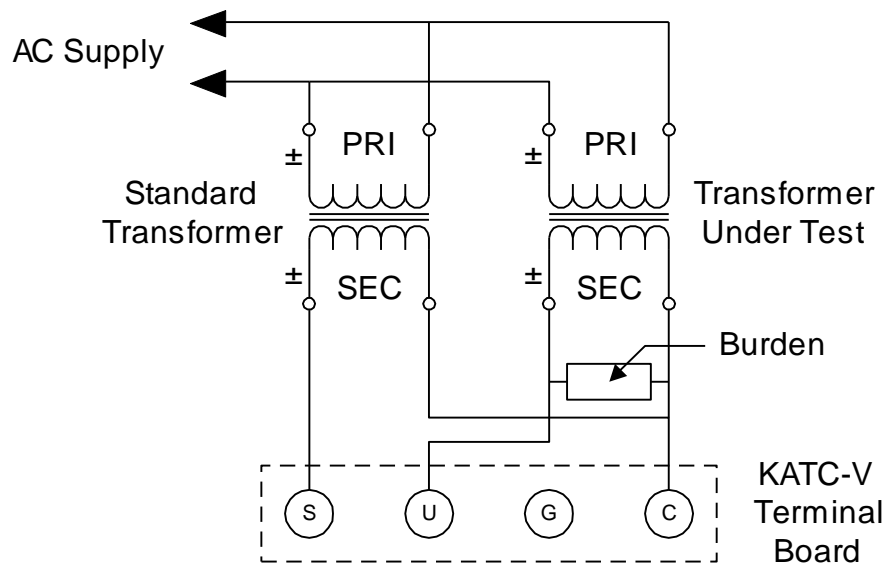

Figure 1 - KATC-V Portable Use
Figure 1 shows the transformer connections to be made to the terminal board on the rear panel of the KATC-V when the KATC-V is being used in a portable environment (not mounted in a transformer test system). The "AC Supply" shown on the drawings should be variac-controlled — such that you can apply voltage *gradually*.
1. If you are using the KATC-V without one of the Knopp Transformer Testing Systems, connect the standard transformer and transformer-under-test as shown in Figure 1 (earlier in this manual). When using the KATC-V with the KVTs or 1G2, refer to the instruction manual for your system for transformer connection instructions.